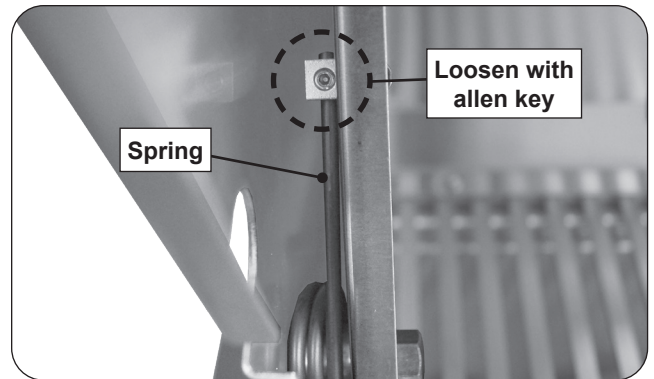

Fig. 1-1 Loosen screw (if applicable)
2. If a spring is being replaced, locate the spring on the left side of the hood. Using an Allen wrench, loosen the screw as shown in Fig. 1-1.